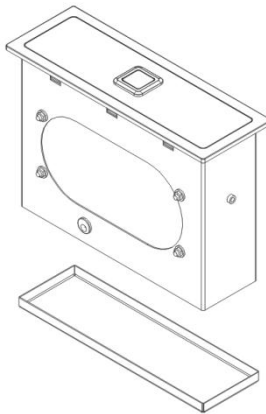

Fig. 4 – Remove Access Cover
- 5.4 Remove the Access Cover from bottom of the Source Capture® Vent, as shown in Fig. 4.